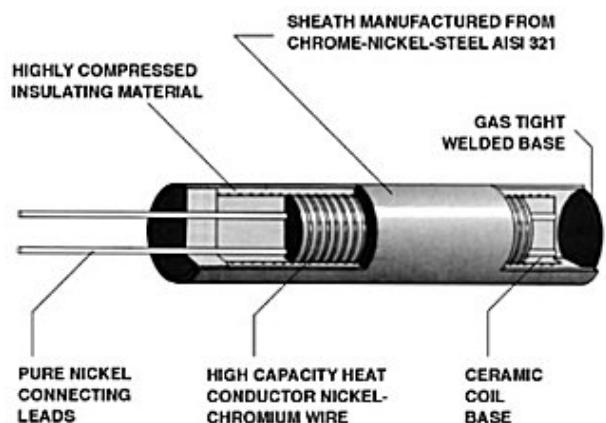

Fig 1.CARTRIDGE HEATER CONSTRUCTION
**TABLE 1 - SINGLE ELEMENT TYPE OVER-THE-SIDE IMMERSION (FIGURE 1)**